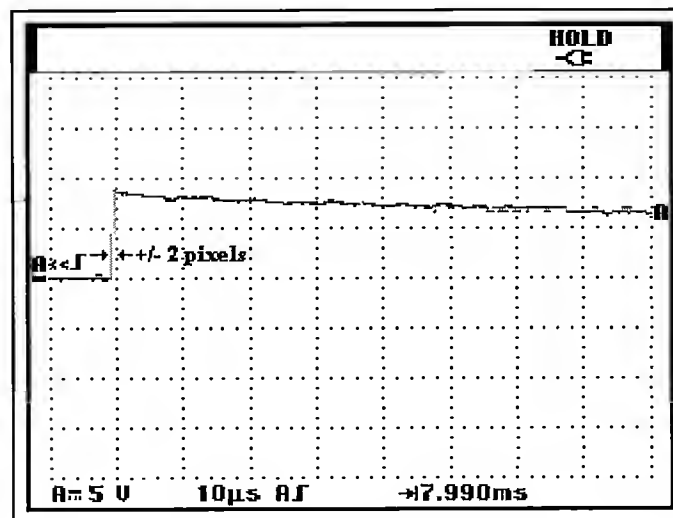

Figure 4-6. Time Base Verification
5. Examine the rising edge of the time marker pulse at the height of the trigger level indicator top. Verify that the rising edge is at the second grid line from the left. The allowed deviation is ± 2 pixels, see Figure 4-6.
9. Examine the rising edge of the time marker pulse at the vertical height of the trigger level indicator top. Verify that the rising edge is at the second grid line from the left. The allowed deviation is ± 2 pixels, see Figure 4-6.